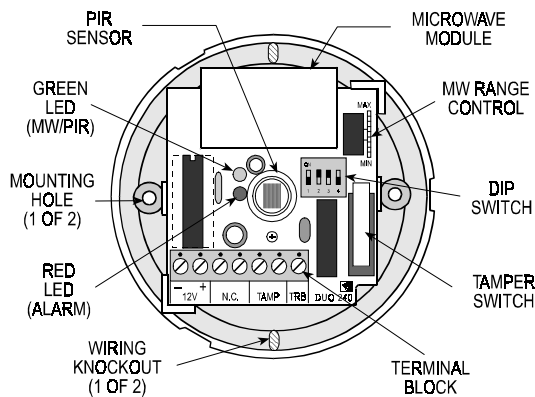
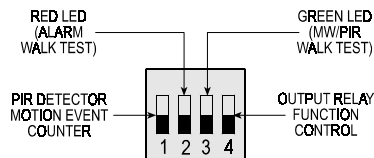

Figure 3. Component Layout
Figure 5. DIP Switch Mode Selector
- B. Press the base against the ceiling in the selected location. Mark the two points for drilling through the mounting holes (see Fig. 3).
The two LEDs (Fig. 3), which are hidden behind the lens when the cover is installed, are visible through the lens when illuminated. They are used to signal various alarm and trouble messages as shown in Table 1 below:
The DIP switch mode selector is mounted on the unit's PC board (Fig. 3). It controls four functions as demonstrated in Fig. 5 and as detailed in Table 2.